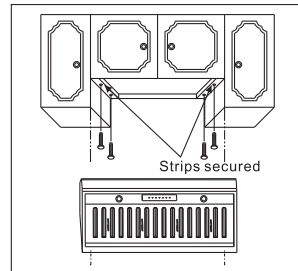

Fig.7
- c. Position the strips on the cabinet bottom and screw the strips securely to the cabinet (Fig.7)
- a. The six keyhole mounting slots for the hood. Mark these onto the bottom of the cabinet; or, if the cabinet bottom is recessed. Onto the wood strips (Fig.7)
- c. Screw the four 1" wood screws (for mounting the hood) into the exact center of the arrow and into the keyhole mounting slots marked on the cabinet bottom (for flush installations), or marked on the 1"x2" wood strips (for recessed cabinet installation) (Fig.7)